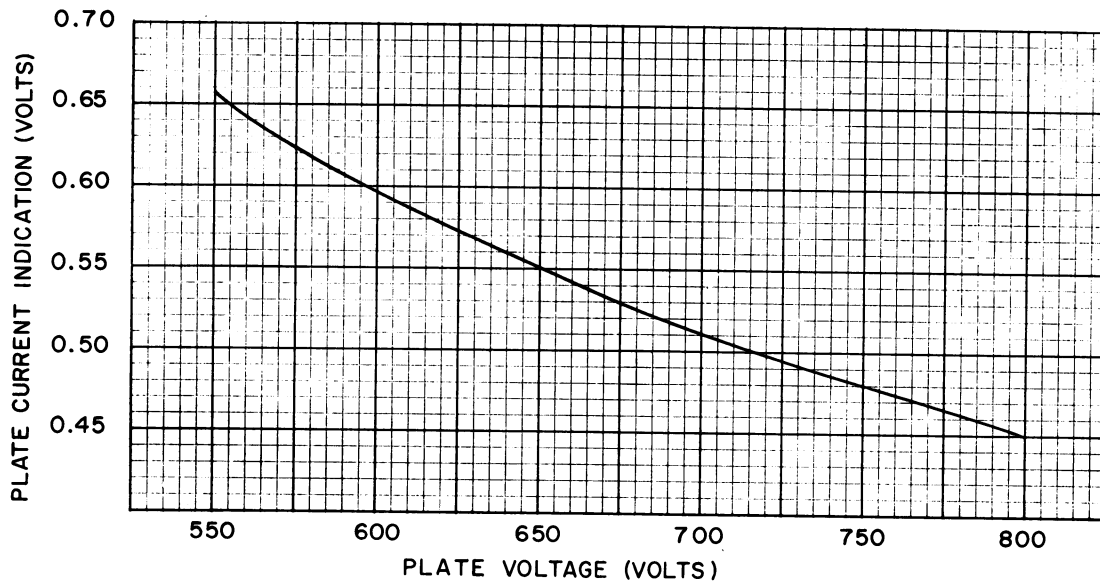

Figure 2 - 120-watt PA Plate Input Loading Curve
Reduce the PA plate Power input by decreasing the antenna coupling. While alternately metering the PA plate voltage and PA plate current, adjust the ANT COUPLING control to obtain the appropriate plate voltage and plate current indication as shown in Figure 2.
1. Loosen the two retaining screws in the front casting (see Figure 2) and pull casting away from the system frame.